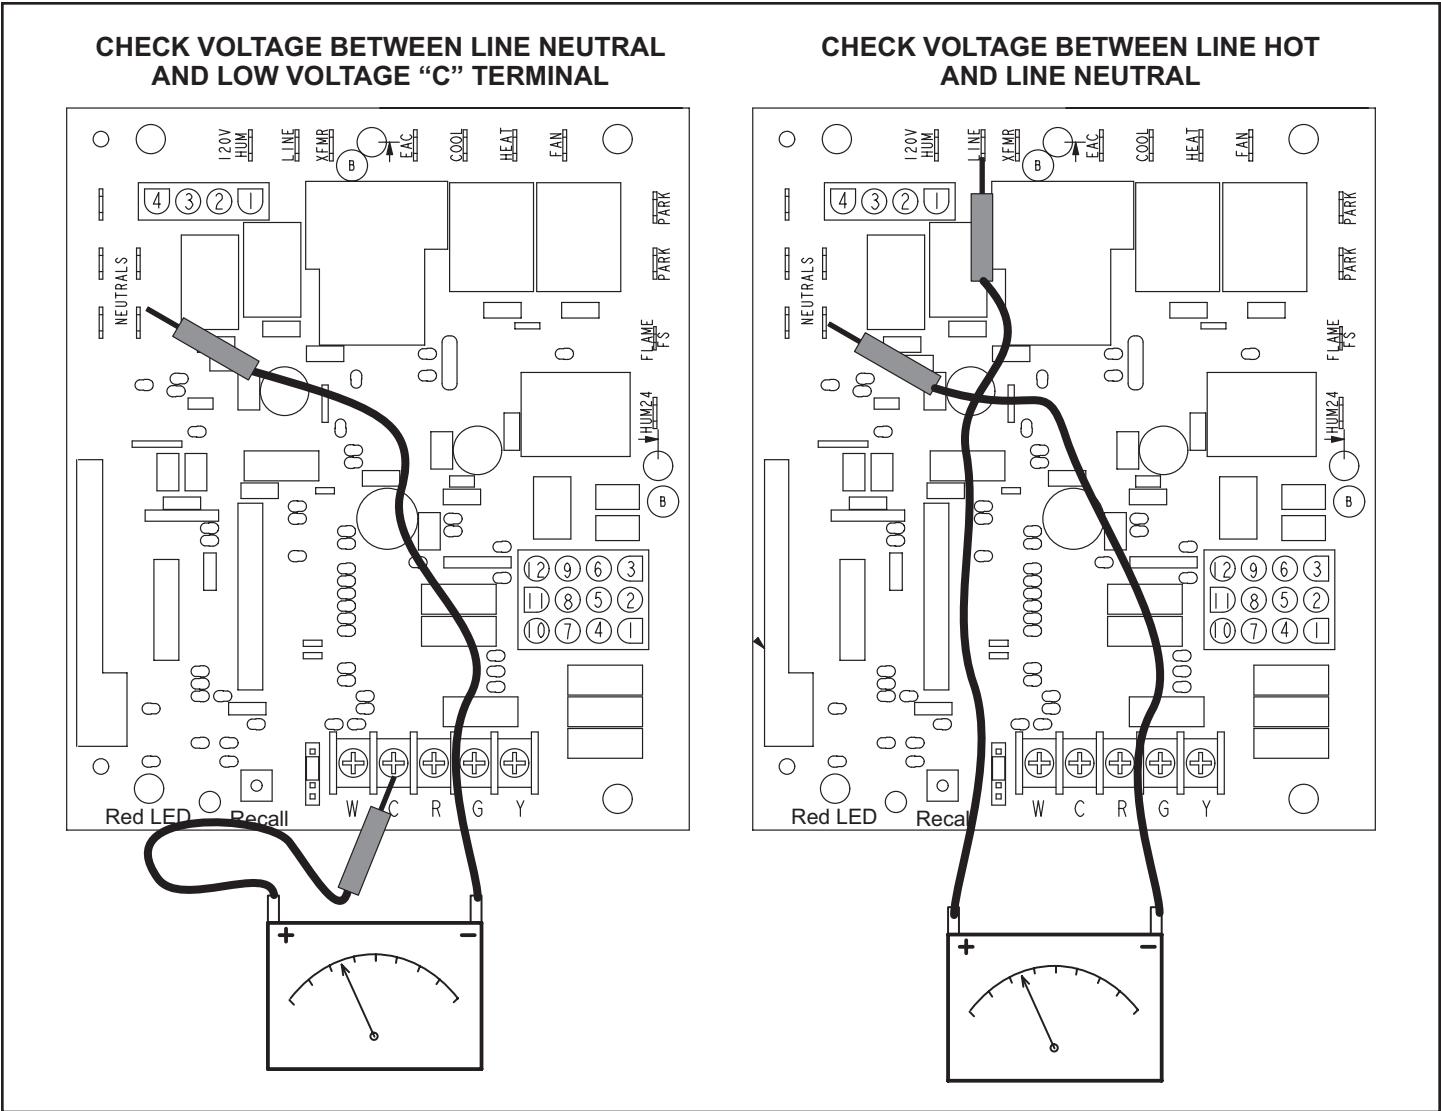

Figure 16.
- 1. Measure the AC voltage between Line Neutral (spade terminals) and “C” terminal (low voltage terminal block) on the integrated control. See Figure 16. A wide variation in the voltage between Line Neutral and “C” as a function of load indicates a poor or partial ground. Compare the readings to Table 10. If the readings exceed the maximum shown in Table 10, make repairs before operating the furnace.
- 2. In addition, measure the AC voltage from Line Hot to Line Neutral (spade terminals) on the integrated control. See Figure 16. This voltage should be in the range of 97 to 132 VAC